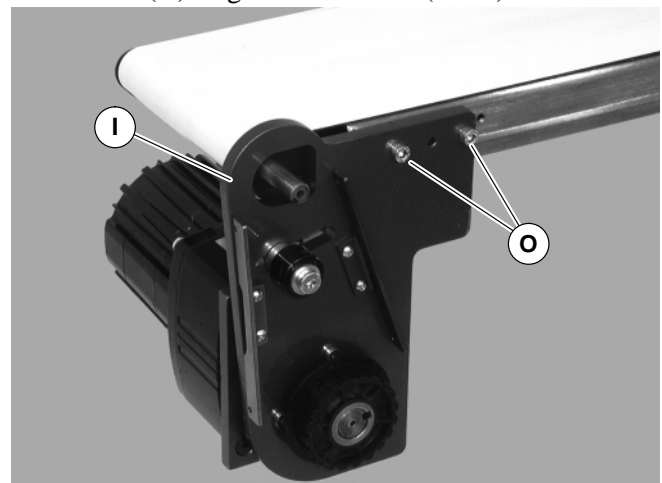

Figure 5
3. Attach mounting assembly (I of Figure 5) with screws (O). Tighten to 80 in-lb (9 Nm).